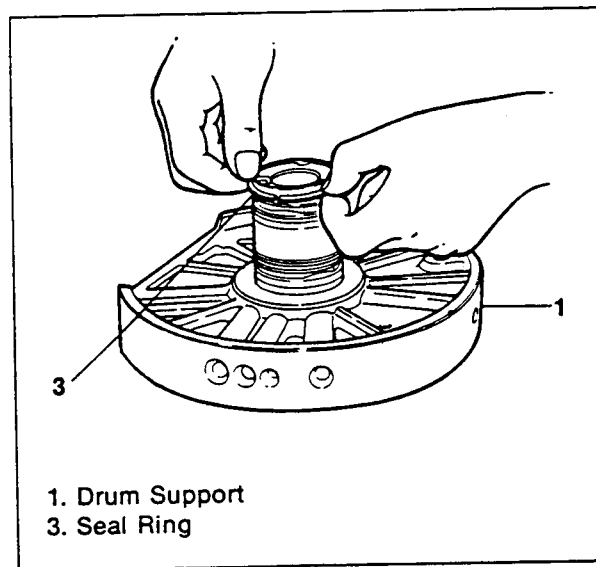

Figure 179. Seal Ring Installation
2. Apply Vaseline to new seal rings and attach them to the drum support (figure 179).